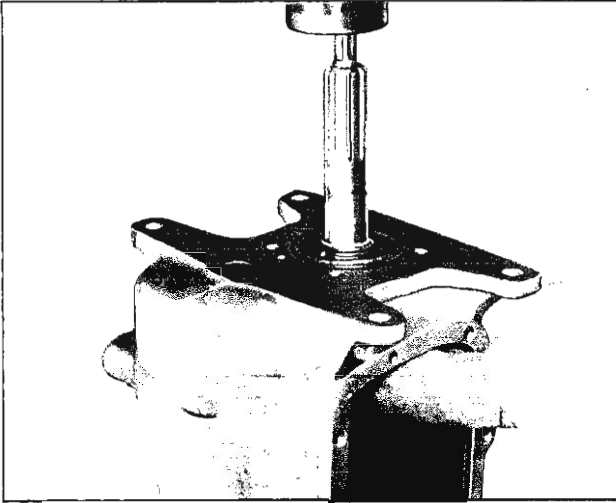

Fig. 10M—Removing Main Drive Gear
11. Press main drive gear down from front bearing (fig. 10M).